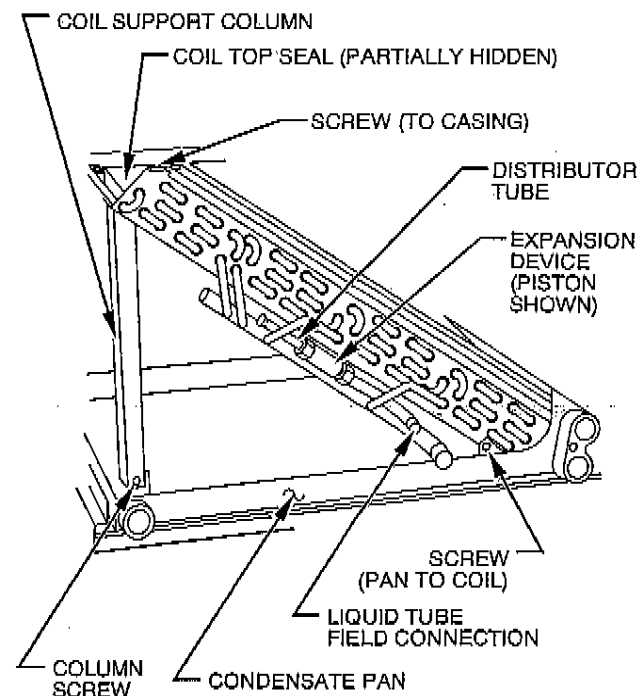

Fig. 15—Slope Coil Component Location
8. Place assembly on a flat surface. Remove 2 screws securing coil support columns to pan. (See Fig. 15.)
12. Remove coil top seal. (See Fig. 15.)